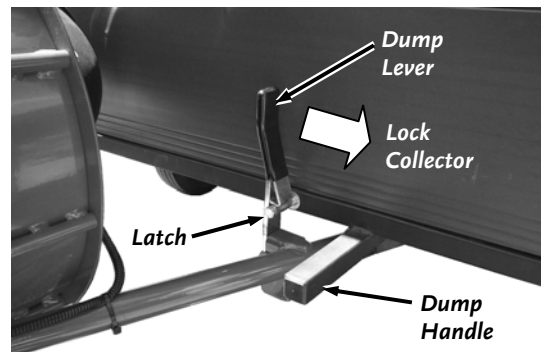
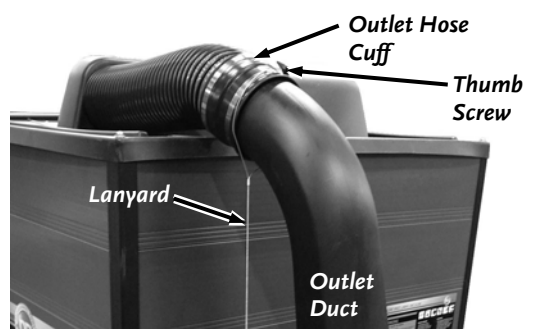
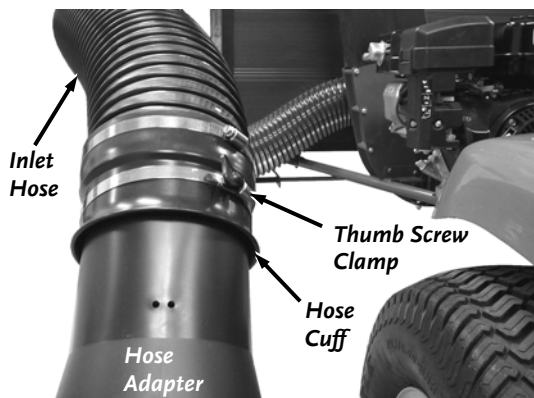

Figure 28
Figure 29
Figure 30
3. Make sure the Collector Base is secured onto the Frame with the Dump Lever locked to the Latch on the Collector (**Figure 28**), the Outlet Hose Cuff is clamped tightly (**Figure 29**), and the Inlet Hose Cuff is securely attached to the Hose Adapter on your Tractor (**Figure 30**).